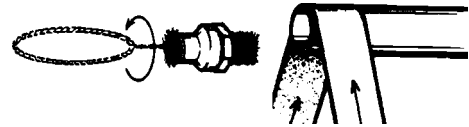

FIGURE 10.
5. Cleaning and brushing the piping and fittings is one of the most important aspects of sweat connections. Clean the ends of each piece of copper with emery cloth, see Figure 10. Clean the inside of each sweat fitting with a wire brush as shown. Make sure you do not touch the cleaned areas.